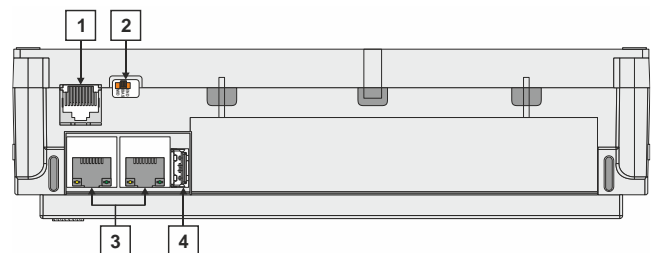

Figure 5: Side view
**Physical connector:** RS232 / RJ45 socket (see *Figure 5* on pg.3)